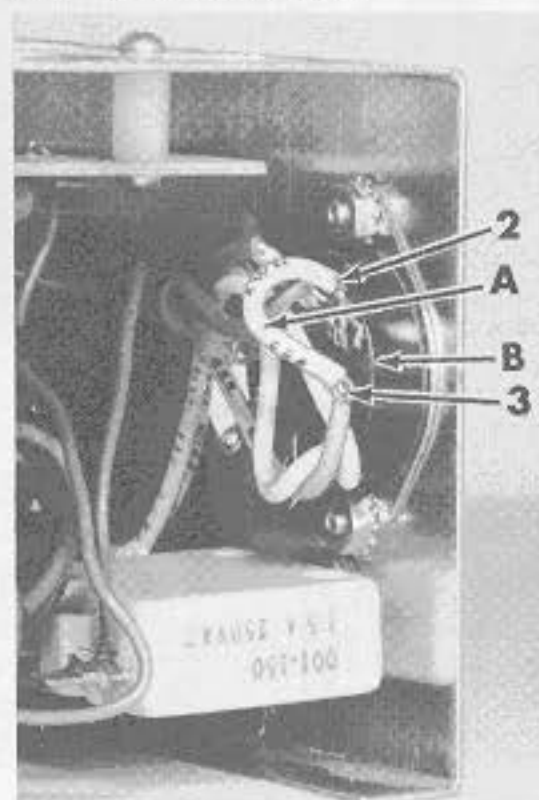

Fig. 35
When installing inching switch, (Amco No. M6665) be sure to remove jumper wire (A, Fig. 35) located between pin #2 and pin #3 on socket (B) before connecting the inching switch plug or it will not function properly.
Should the inching switch be removed at a later date, the jumper wire (A, Fig. 35) must be replaced or the needle positioning unit will not position up.